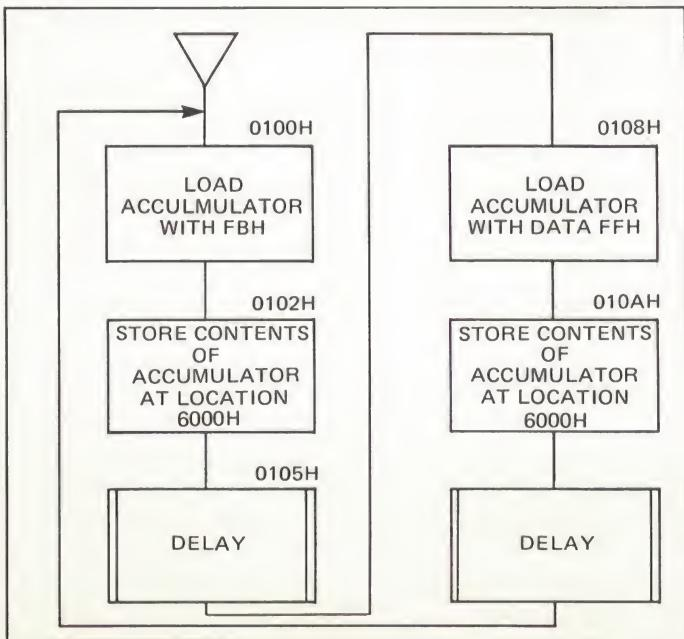

Fig. 5-10. Flow diagram of the flashing LED program.
**Flashing LED.** With only a little effort we can make the LED flash. Sending data FFH to location 6000H will extinguish all of the LEDs, so that by alternately sending FFH and FBH we can make the WRITE TAPE LED flash on and off. We will need some sort of timing action to delay the LED in each of the states so that we will be able to see it, but we have that subroutine still in our memory at location 0300H. Each time it is called a delay of about a half second is produced which should be just right for the flashing action. We will have to CALL it twice, once for the LED "off" state, but after some of the things we have done so far that should'nt be a problem. The program is summarized below and in the flow diagram of FIG. 5-10.